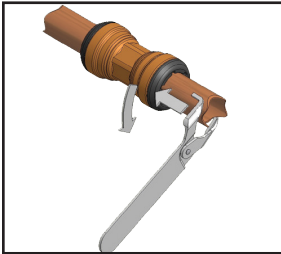

FIGURE 2
1. Place the tangs of the adjustable spanner wrench in opposing slots in the end cap and loosen the end cap by turning wrench in a counter-clockwise direction (Fig. 2).